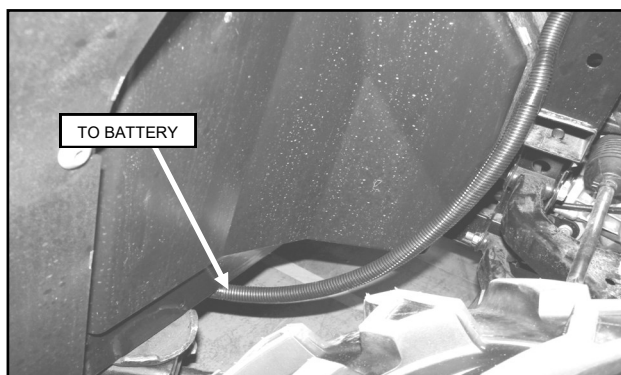

Fig. 3.6a (Wheel Well, Passenger Side)
3.6 Per figures 3.6a (this page) and 3.6b (next page), continue to run the remainder of the Main Wire Harness to the back of the vehicle on the Passenger side to the vehicle's battery